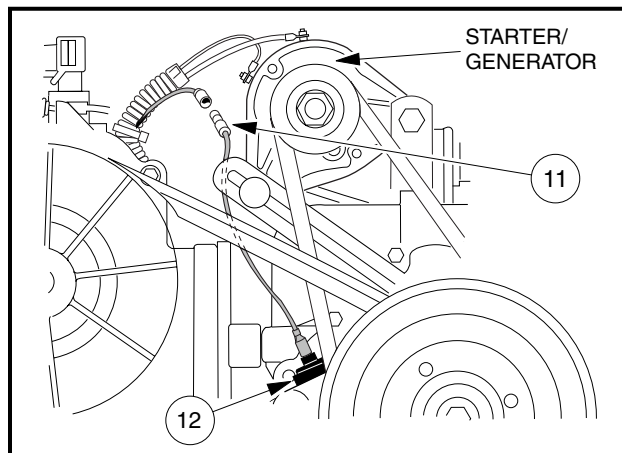

Figure 13-2 Oil Level Sensor Wire
1. Remove yellow jumper wire (11) from cord connector (12) (**Figure 13-2, Page 13-4**).
1. Connect the yellow jumper wire (11) to the cord connector (12) (**Figure 13-2, Page 13-4**).